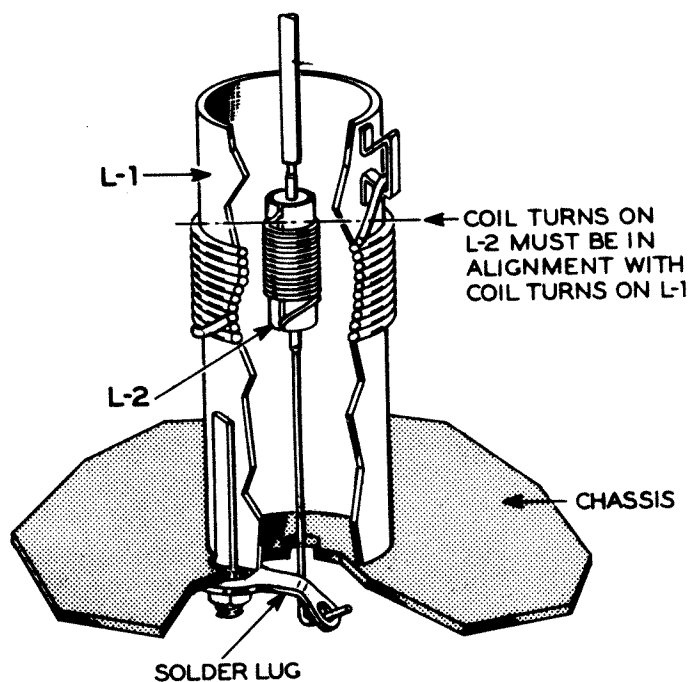

FIGURE 8. HOW TO WIRE L-2
- () Place L-2 inside and in the center of L-1 as shown in Figure 8. The turns on each coil must be in line. Proper positioning of L-2 requires that you use the full length of the end lead which will be connected to TS-3. Insert this end lead through a $1\frac{3}{8}$ inch length of spaghetti. Solder it to terminal 1 of TS-3. Solder the other lead to the solder lug on the outside of the chassis.